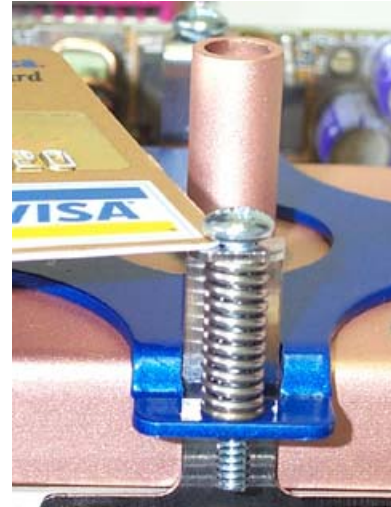

Figure 3
- ❑ Continue backing off until the head of the screw completely clears the top of the bracket, as shown figure 3.